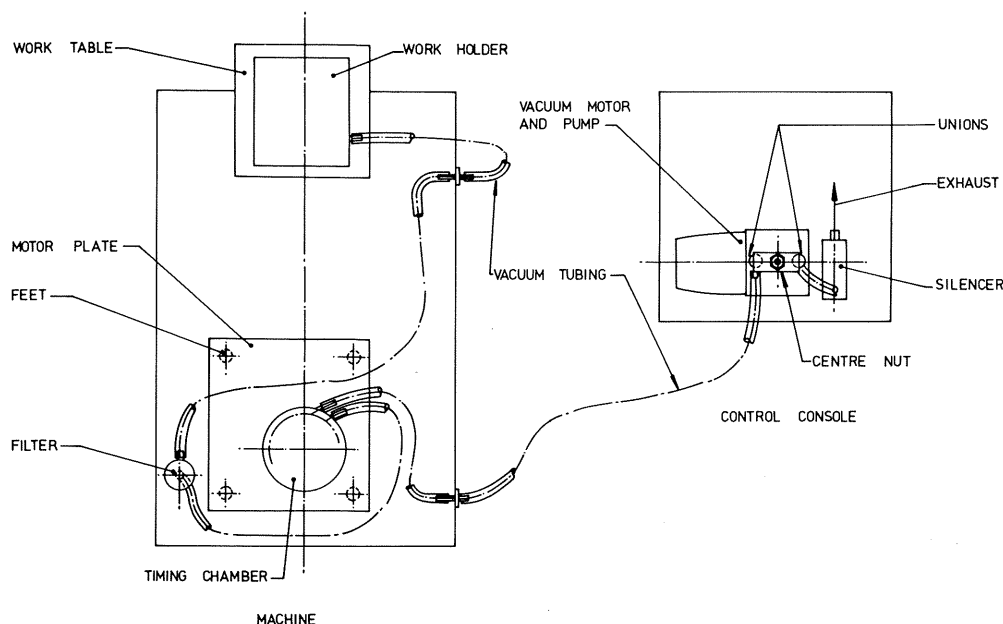

Fig 49
- E 30 When replacing the motor unit take care not to trap a vacuum pipe. The vacuum pipe from the union at the front of the machine (Fig 49) should pass under the gearbox from side to side and not diagonally under the motor. It is easier to connect the vacuum pipes up before the motor unit is in position.
Vacuum system (Fig 49)
- E 89 The unions on the vacuum pump can be set at any angle by slackening the centre nut. The vacuum tube connections are shown in Fig 49.